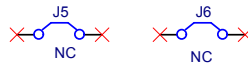

Figure 14. DVB to SK Connector, SWJ Connector and Fool Proofing
- Figure 14. includes the DVB to SK Connector, SWJ Connector and Fool Proofing.